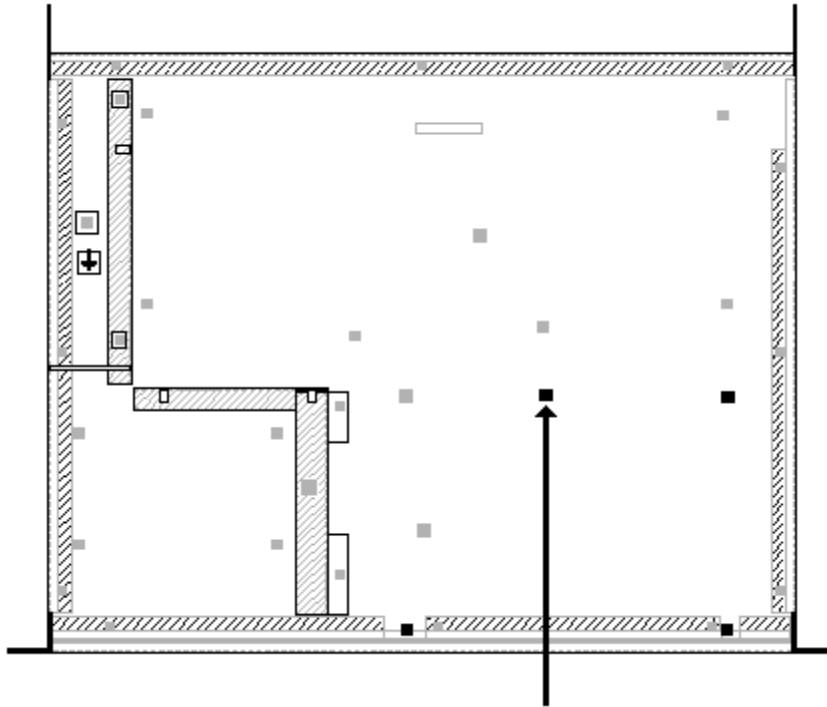

Figure 1. Location of the key hole stand-off that is to have its head cut.
4. Locate the standoff in the chassis, near the center, that is to be cut (Figure 1).